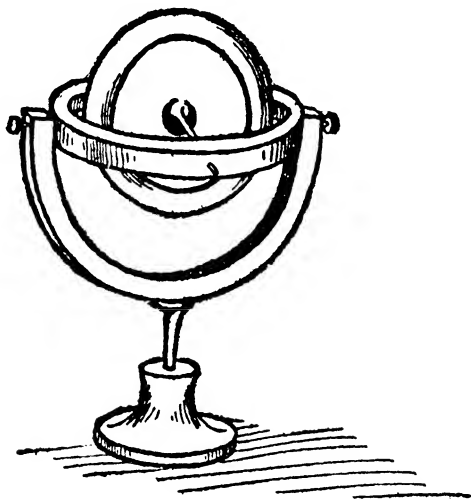

FIG. 17.—A Gyrostat with “three degrees of freedom.”
Foucault mounted a spinning top so that it could move in any direction, or, to look at it another way, so that its support could be moved in any direction without moving it. Figure 17 shows the kind of thing I mean. There we see the axle of the wheel is mounted inside a ring, the ring inside a fork, and the fork in a socket. All the joints are made to work as freely as possible, and all the parts are made to balance exactly. Thus you could take hold of the wheel, and the slightest touch would make it move in any direction you like. Not only will it turn round upon its axle, but you can move its axle so that it points in any way desired. Or, on the other hand, you might hold the apparatus by the socket, and move it about freely without necessarily altering the direction of the axle. That is called a Gyrostat, with three degrees of freedom—for (1), it can